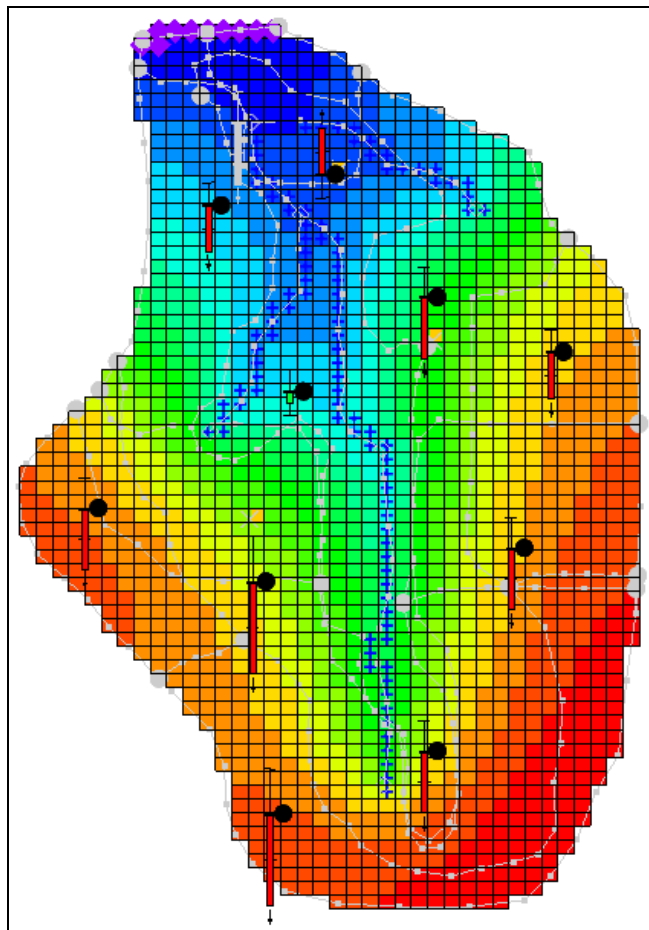

Figure 1 The initial MODFLOW model
- Click **Open** to import the project and exit the *Open* dialog. The initial MODFLOW model should appear as in Figure 1.